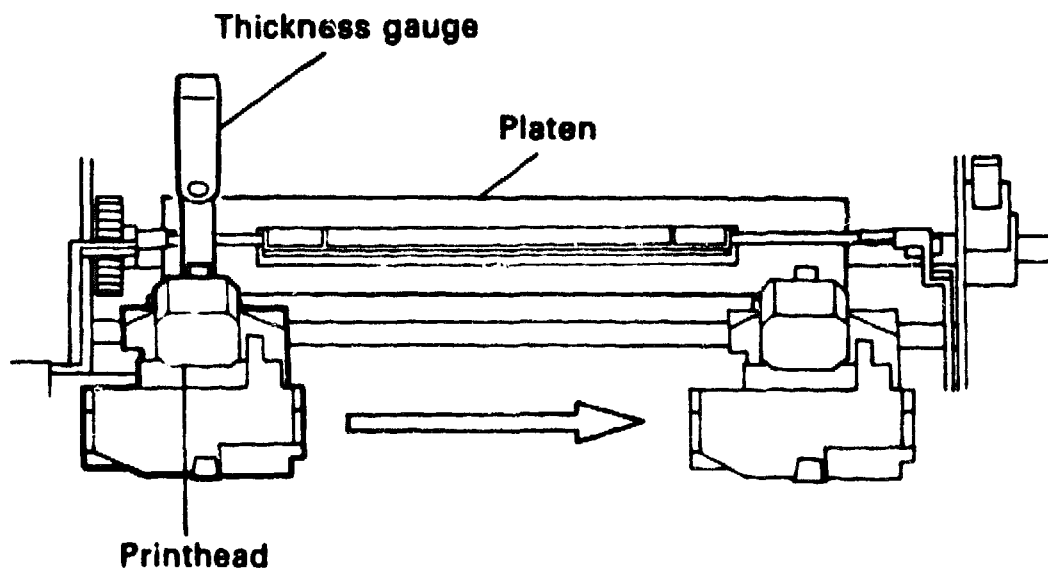

Figure 6-6 Checking the Printhead Gap
1. Check that the printhead gap (gap between the print head and platen) is 0.35 - 0.40 mm when the impression control lever is pushed fully to the rear. Use a thickness gauge to check the gap at two points : at both ends of the platen (Figure 6-6).